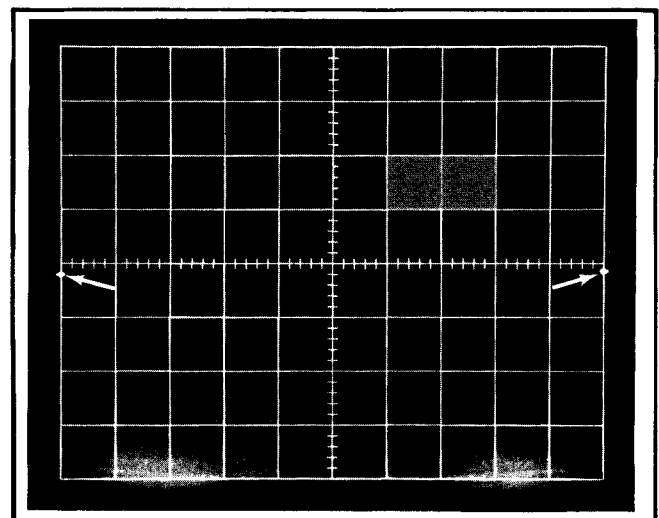

Fig. 7-11. Double exposure of Indicator Oscilloscope display of Manual Scan control range for Horiz Gain adjustment.
a. Set the DISPLAY MODE switch to MANUAL, turn the MANUAL SCAN control fully clockwise. Connect a precision non-loading voltmeter between ground (—) and R474 (Man Scan Cal control) terminal to which a white with black tracer wire is connected. Adjust R474 for exactly +15 V. Disconnect the meter. Set the MANUAL SCAN control fully counterclockwise. With the HORIZ POSITION control, set the CRT spot carefully to the zero vertical graticule line; see Fig. 7-11.
b. Turn the MANUAL SCAN control fully clockwise and check that the spot is exactly at the tenth graticule line; see Fig. 7-11.